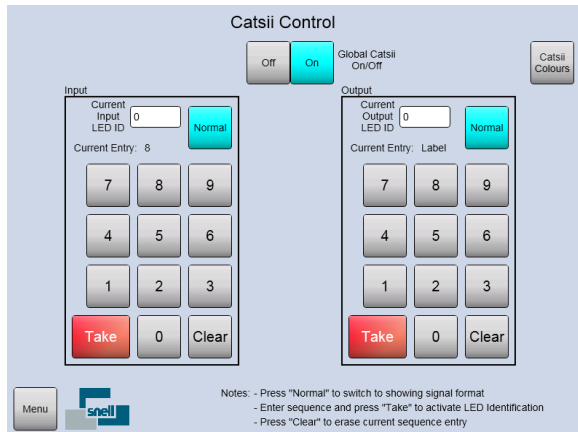

Fig 32.Catsii Control Screen
2. Open the Catsii Control screen on the Door PC (see Fig 32.) by touching the **Catsii** button on the Main Menu screen.